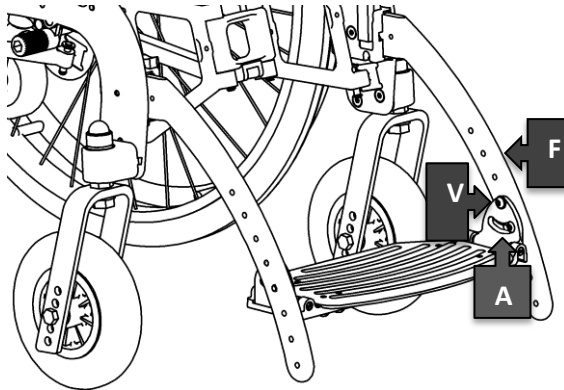

Figure 7
To adjust the height of the footrest, completely unscrew the screws (V) and position them in one of holes (F) (see Figure 7).
To adjust the inclination of the footrest loosen the screws (A) and incline the platform at will, then retighten the screws (A) (see Figure 7).